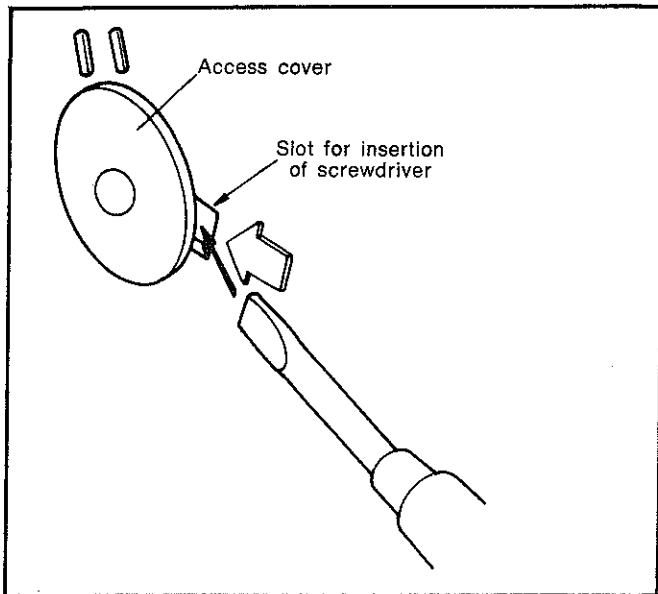

Fig. 87—Removing access cover
(3) Remove fan belt, remove access cover (2 places) by inserting a screw driver in the slot provided and pry off (Fig. 87).